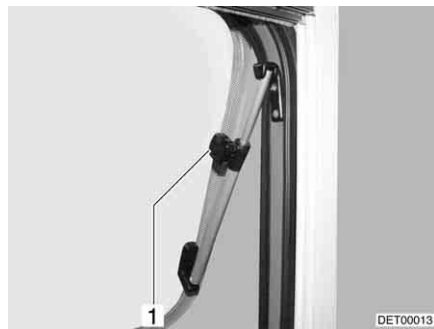

Fig. 94 Hinged window with rotary hinges
- Open the hinged window until the required position has been reached and use knurled knob (Fig. 94,1) to secure in position.
- Turn knurled knob (Fig. 94,1) until the latch is released.